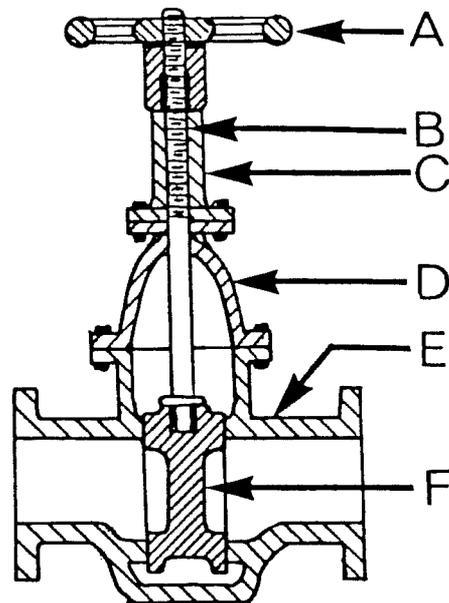

Figure 6
6. The piece of equipment pictured in Figure 6 is called a(an)